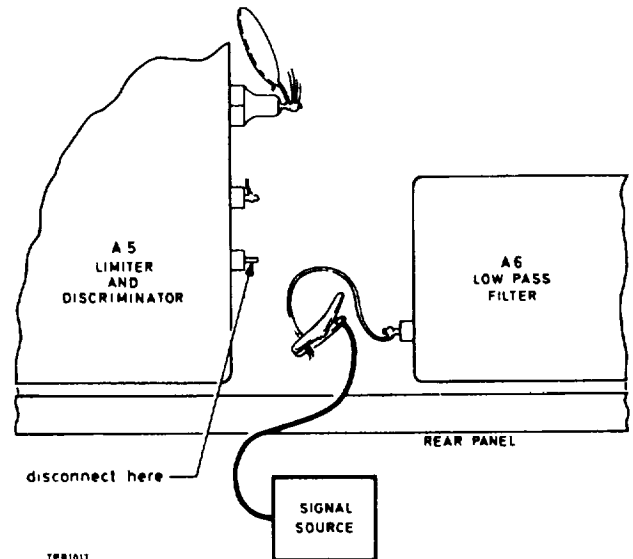

Fig. 5-3. Location of discriminator output lead.
- (1) Connect the 0.014  $\mu$ F capacitor, r.m.s. voltmeter and oscilloscope across the OUTPUT terminals.
- (2) Turn the oscillator RANGE switch to EXT.
- (3) Connect the 1.5 MHz crystal oscillator to the R. F. IN socket and turn the MAX MOD FREQ switch to 15 kHz.
- (4) Turn the Function switch to SET FREQ-F. M. and check that the TF 2300A meter deflects to the SET mark.
- (5) Turn the Function switch to TUNE and adjust the LEVEL control to bring the TF 2300A meter reading to the top end of the black R. F. LEVEL arc.
- (6) Turn the Function switch to SET CAL and adjust the r. m. s. voltmeter range switch to give a convenient reference level. Note this reference level.
- (7) Turn the Function switch to DEV+ and the RANGE switch to 5 kHz. Turn down the external voltmeter range switch and check that the reading is at least 52 dB below the reference level, i. e. -72 dB relative to the level of 50 kHz deviation.
- (8) If not, remove the yellow lead from the discriminator output, A5 pin 4 (see Fig. 5-3) and check that the noise level drops to -58 dB. A high noise figure can be improved by selection of transistors Q3, Q4, Q5,